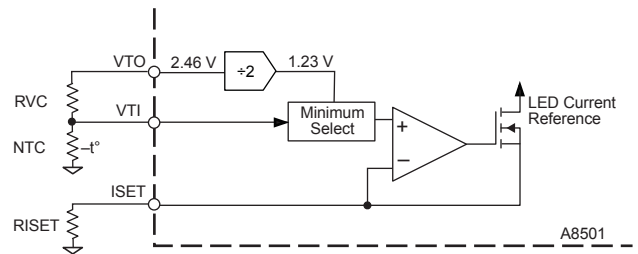
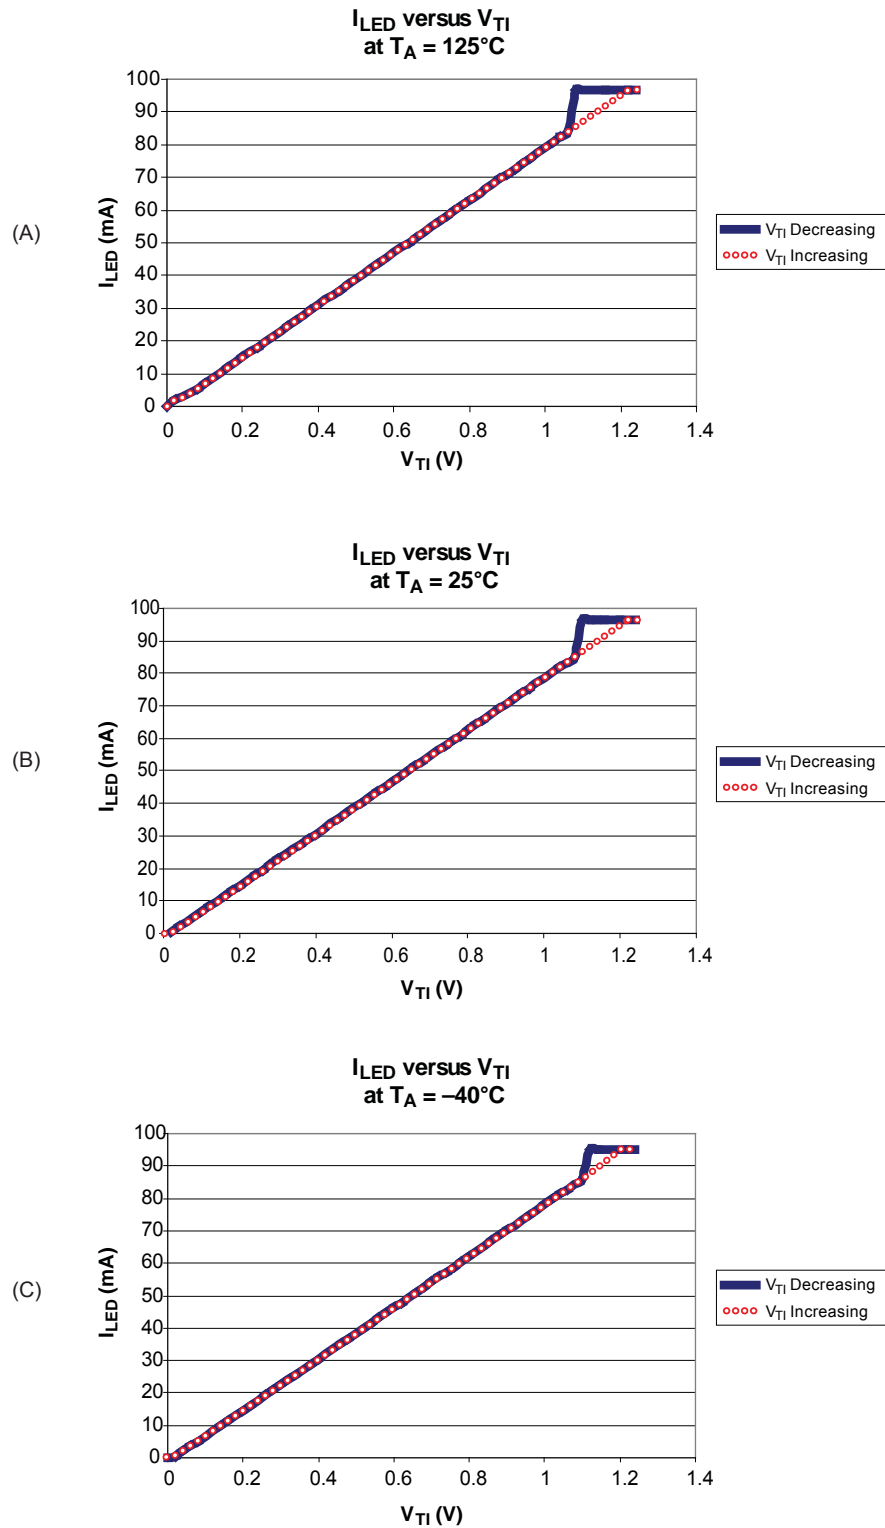

Figure 5. Thermal derating reference circuit
Figure 6. LEDx current versus V_{T1}
- Analog dimming using the VTI pin. External DC voltage can be applied to the VTI pin to control LED current. LED current varies as a function of voltage on the VTI pin. This configuration is shown in figure 5.
Thermal Derating Thermal derating can be achieved by connecting an NTC thermistor between VTI and ground, as shown in figure 5. When the A8501 is enabled and $V_{TI} > 1.1$ V, 100% current for the LEDs is controlled by the ISET and DIM pins. This is represented by the solid blue curves in figure 6. When V_{TI} falls below 1.1 V, V_{ISET} starts to follow V_{TI} , resulting in I_{LEDx} varying proportionately with V_{TI} represented by the overlap of the dotted and solid curves. The proportion of I_{LED} to V_{TI} , when LED current is controlled through the VTI pin, is calculated as:
There is a hysteresis built into the VTI pin circuit, so while V_{TI} is decreasing, there is a delay before proportional change begins if VTI pin voltage starts above 1.1 V, as shown by the solid blue curves in figure 6. When V_{TI} starts below 1.1 V, or falls below 1.1 V during operation and then starts increasing again V_{ISET} will follow V_{TI} until the voltage reaches 1.23 V as shown by the red-and-white dotted curves in figure 6.